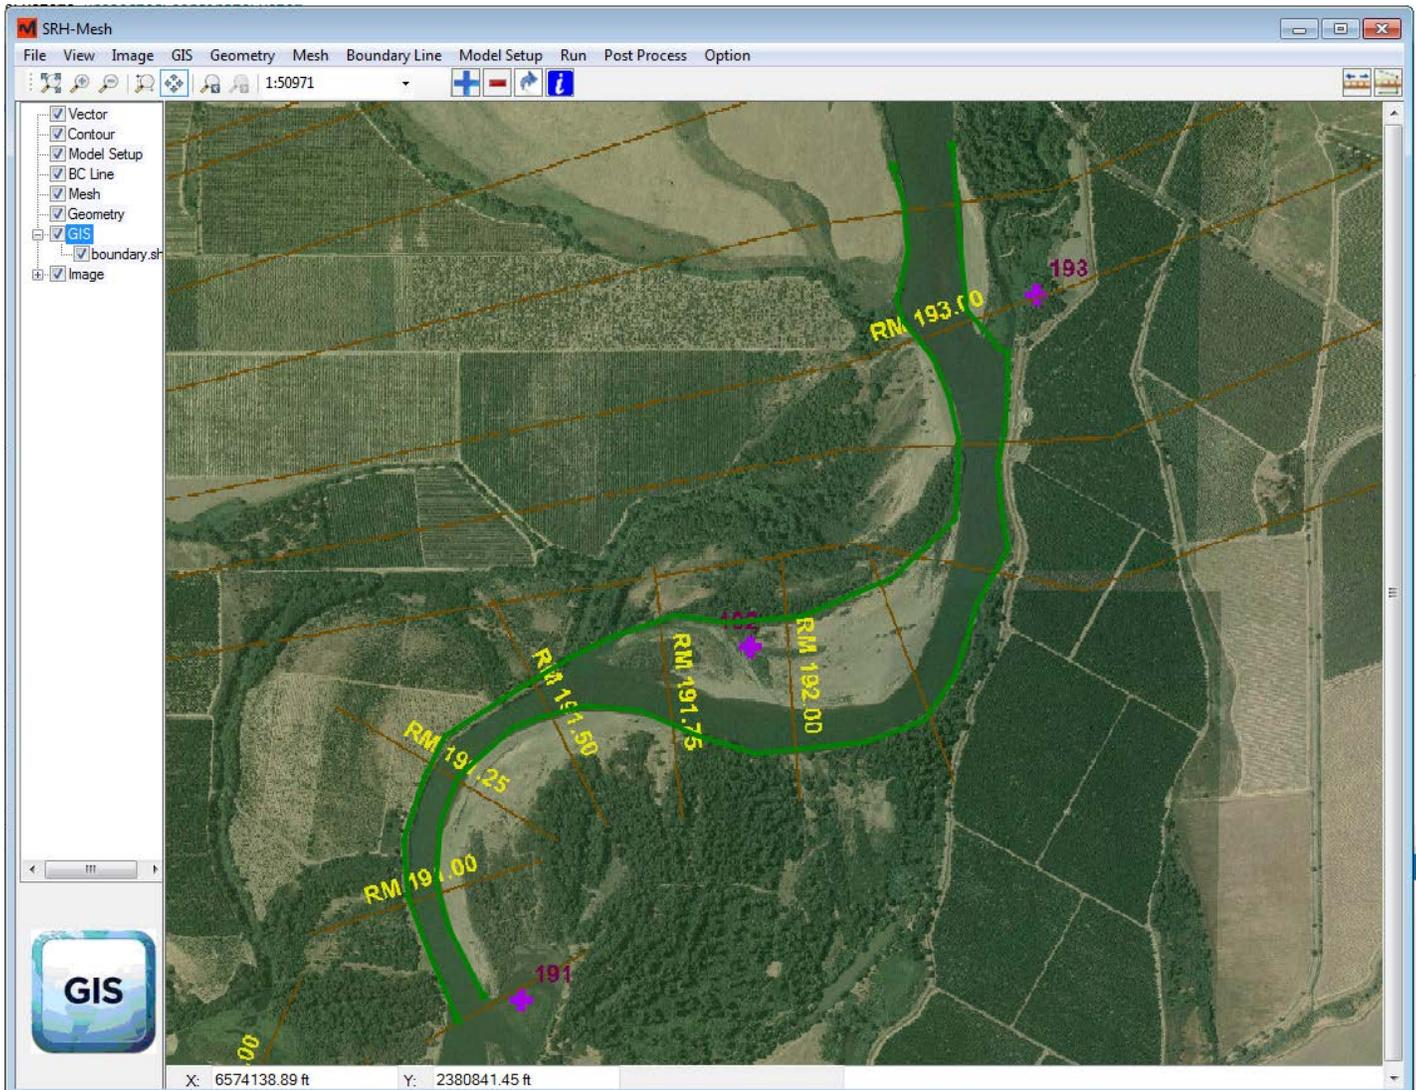

Figure 5-5. SRH-Mesh mesh is shown as green lines.
Step 2: Click on the menu item GIS\GIS Shapefile to Geometry to transform the GIS Shapefile into geometry features in SRH-Mesh. The line is shown as green lines in Figure 5-5. Uncheck the GIS Module in the table of contents.